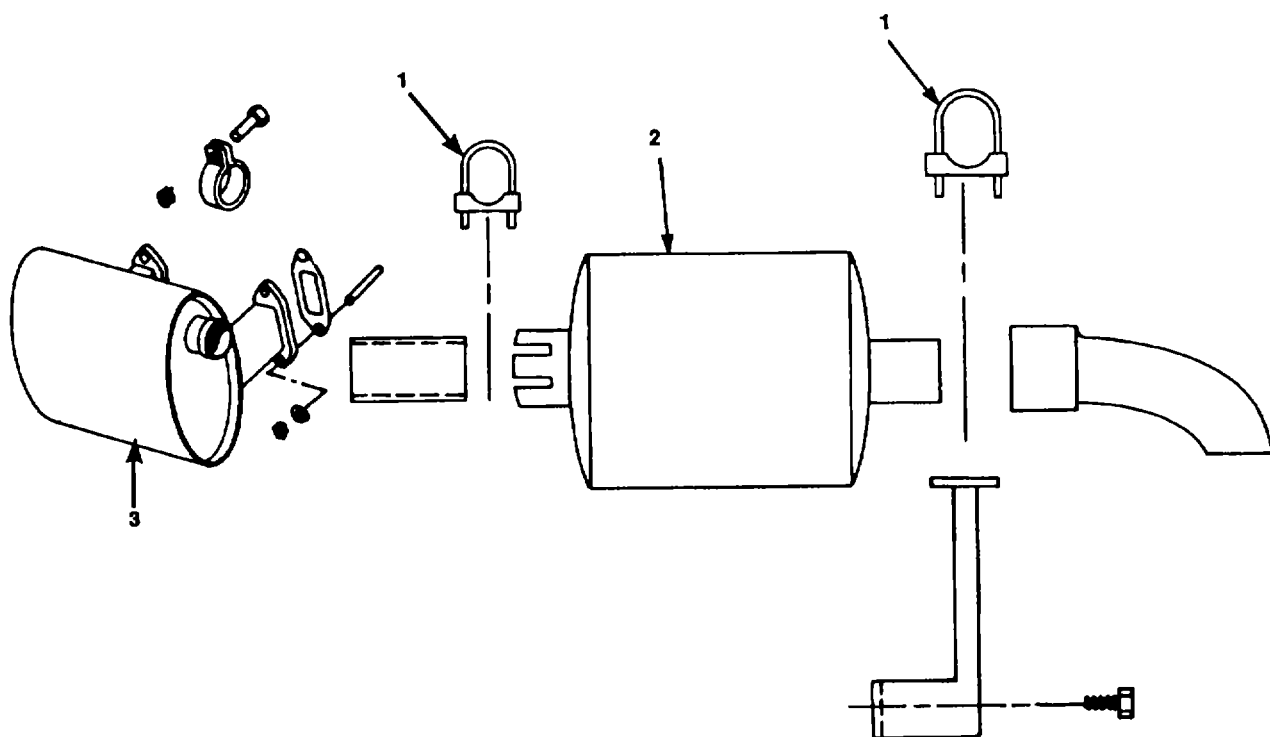

Figure 3-37. Exhaust Manifold
- a Remove nuts and washers that secure U-bolt (1, figure 3-37) to compressor frame. Remove U-bolts.
- b Remove nuts and washers that secure U-bolt (1) to spark arrestor and muffler (3), and remove spark arrestor and tail piece.